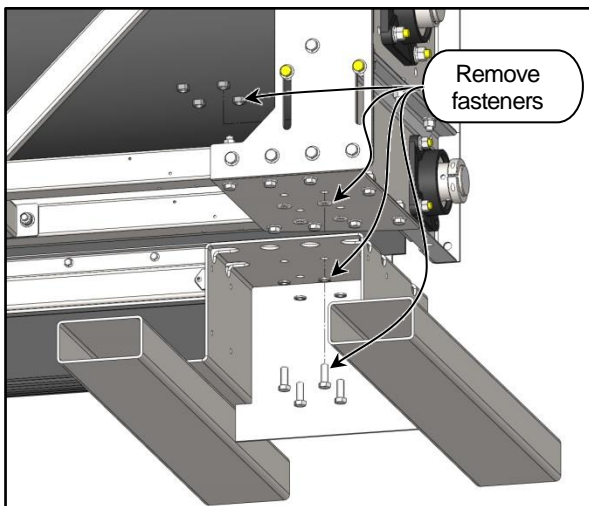

Figure 26
16. Remove the motor support cradle assemblies from the head. (See Figure 26)